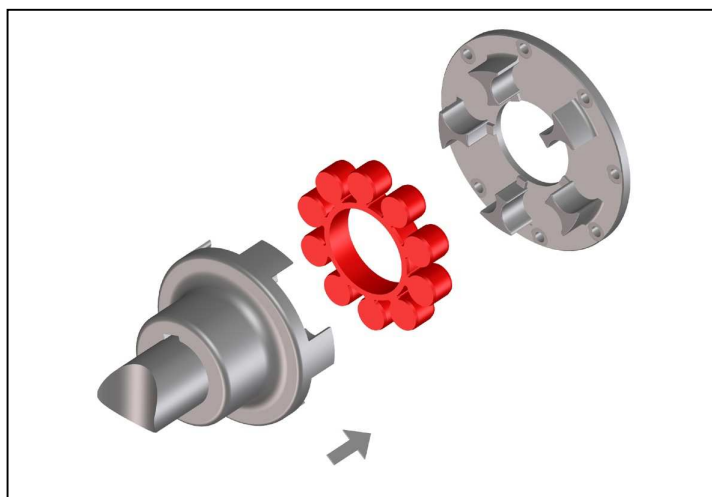

Fig. 5
- Push together the shaft end with the mounted coupling half and the coupling flange (Fig. 5).